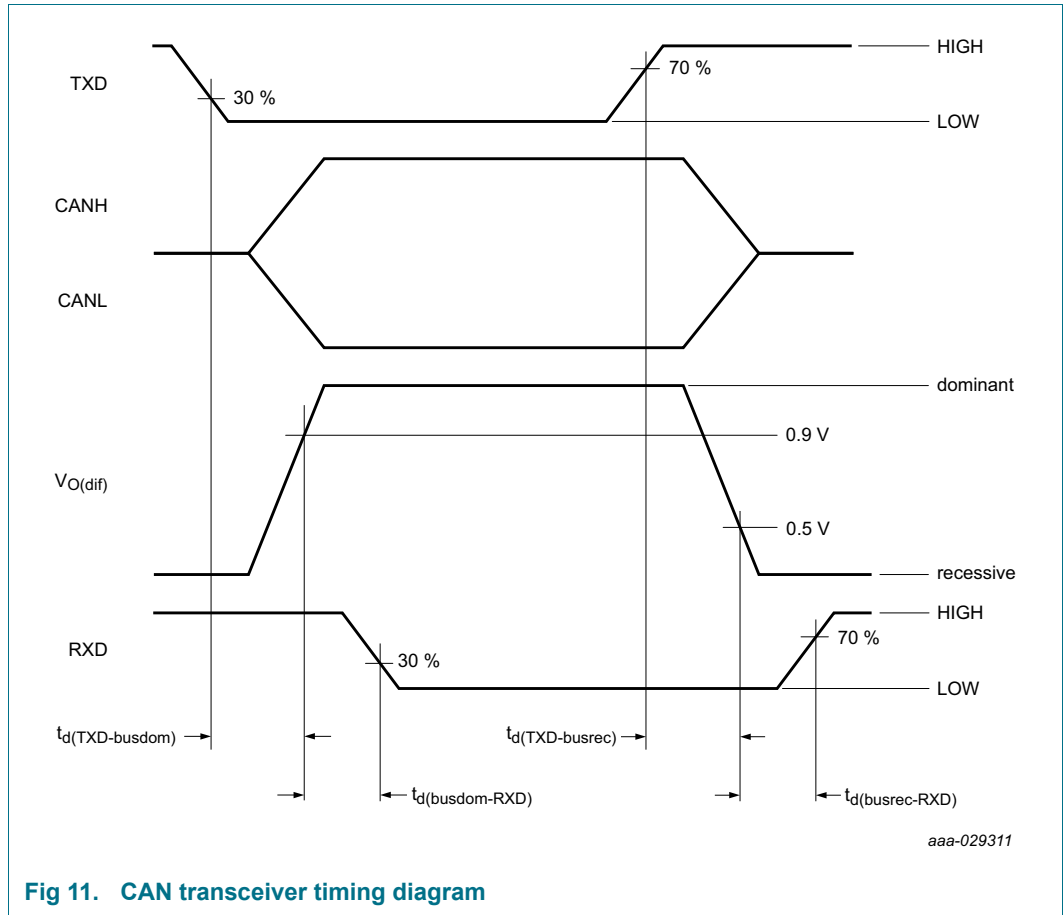
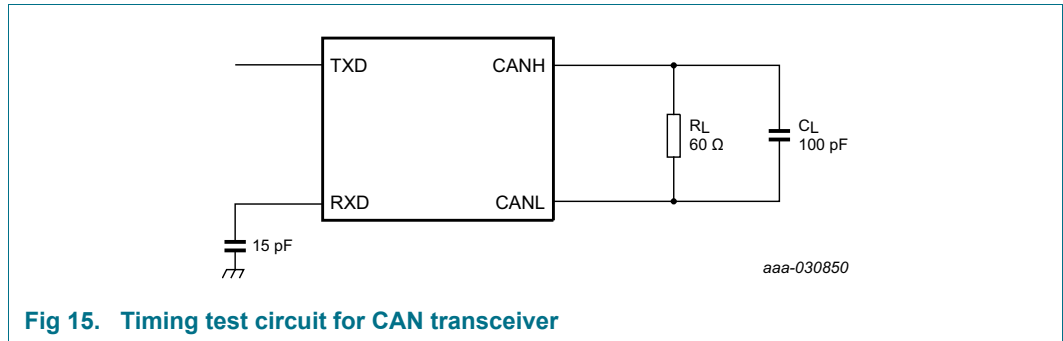

Fig 11. CAN transceiver timing diagram
Fig 15. Timing test circuit for CAN transceiver
- [2] See Figure 11 and Figure 15.
- [3] See Figure 12 and Figure 15.